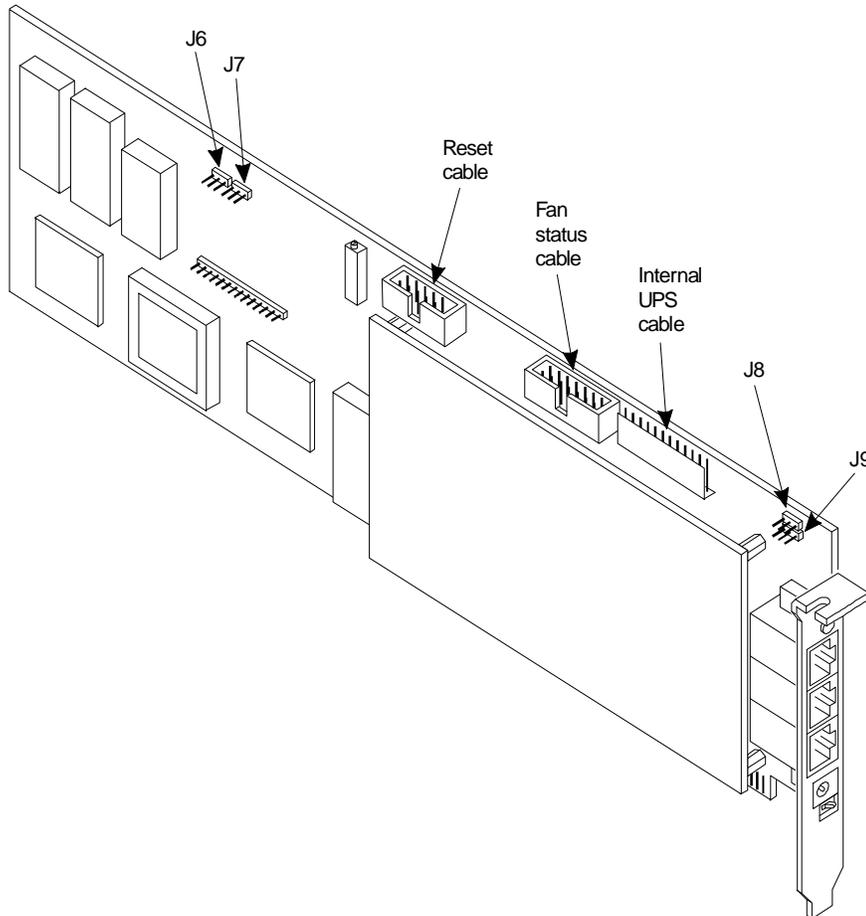
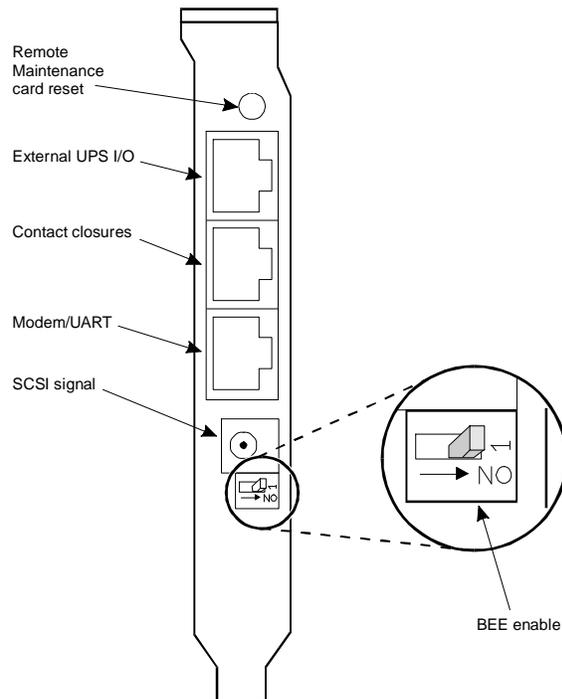
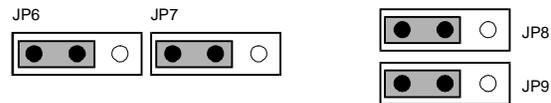

Figure 9-11. Remote Maintenance Circuit Card
Figure 9-12. Faceplate of the Remote Maintenance Circuit Card Showing the BEE Enable Switch
Figure 9-13. Jumper Settings for the Remote Maintenance Circuit Card
The MAP/100 accommodates a Remote Maintenance circuit card (Figure 9-11) to allow for remote diagnostics of basic MAP/100 components.
Figure 9-12 shows the faceplate of the Remote Maintenance circuit card and an enlarged view of the BIOS Extension EPROM (BEE) enable switch. Ensure that this switch is set to the ON (default) position as shown.
Figure 9-11 shows the four jumper locations on the Remote Maintenance circuit card, J6, J7, J8, and J9. Ensure that a jumper is installed on pins 1 and 2 of each one as shown in Figure 9-13.
The following tables show the pinouts for the various connectors on the Remote Maintenance circuit card. Figure 9-11 and Figure 9-12 show the locations of these connectors.
10. Connect the suppression cable to the external modem connection on the faceplate of the card (see Figure 9-12 for the location of the modem/UART connection) and to the modem.